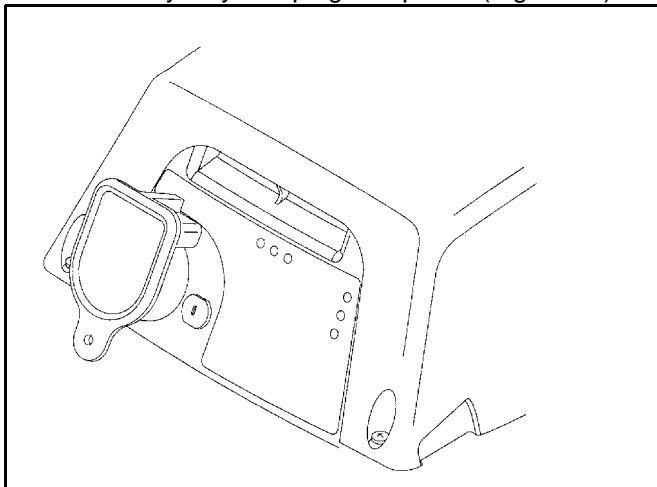

Figure 20
2. Insert key fully into plug receptacle (Figure 20).